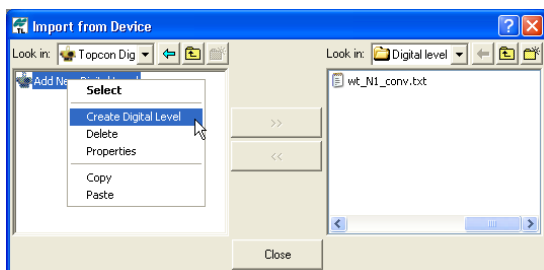

Figure 2-34. Creating a New Digital Level
- To add a device, select *Add New Digital Level*, then select *Digital Level* on the pop-up menu (Figure 2-34).